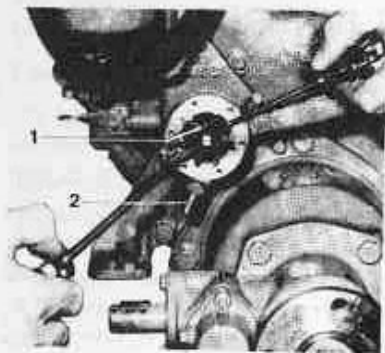

Fig. 25. Removing impeller
1. Remove the cover from the sea-water pump. **Note the risk of water getting into the boat.** With the help of two screwdrivers pull the shaft with the pump impeller out of the housing as far as necessary to reach the bolt retaining the impeller. See Fig. 25. **NOTE:** Place some kind of protection under the screwdrivers in order not to damage the impeller housing.